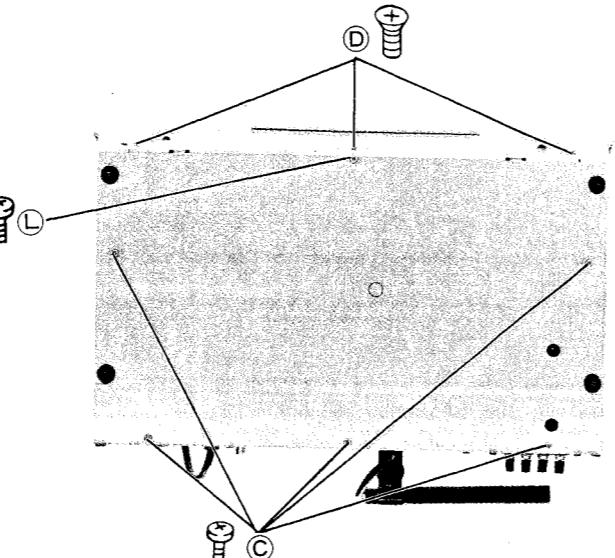

Figure 7
1. Remove five screws **(C)** ($3\phi \times 8mm$) and one screw **(L)** ($3\phi \times 5mm$) holding the bottom plate, then the bottom plate can be removed out. (See Figure 7)
1. Remove six screws **(D)** ($3\phi \times 6mm$) holding the front panel, then the front panel assembly can be removed out. (See Figure 7 and 8).